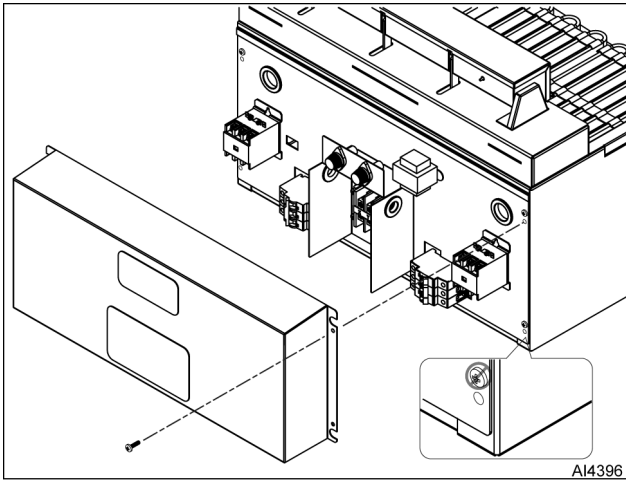

Fig. 1
1. Remove four fasteners and electrical cover (Fig. 1).